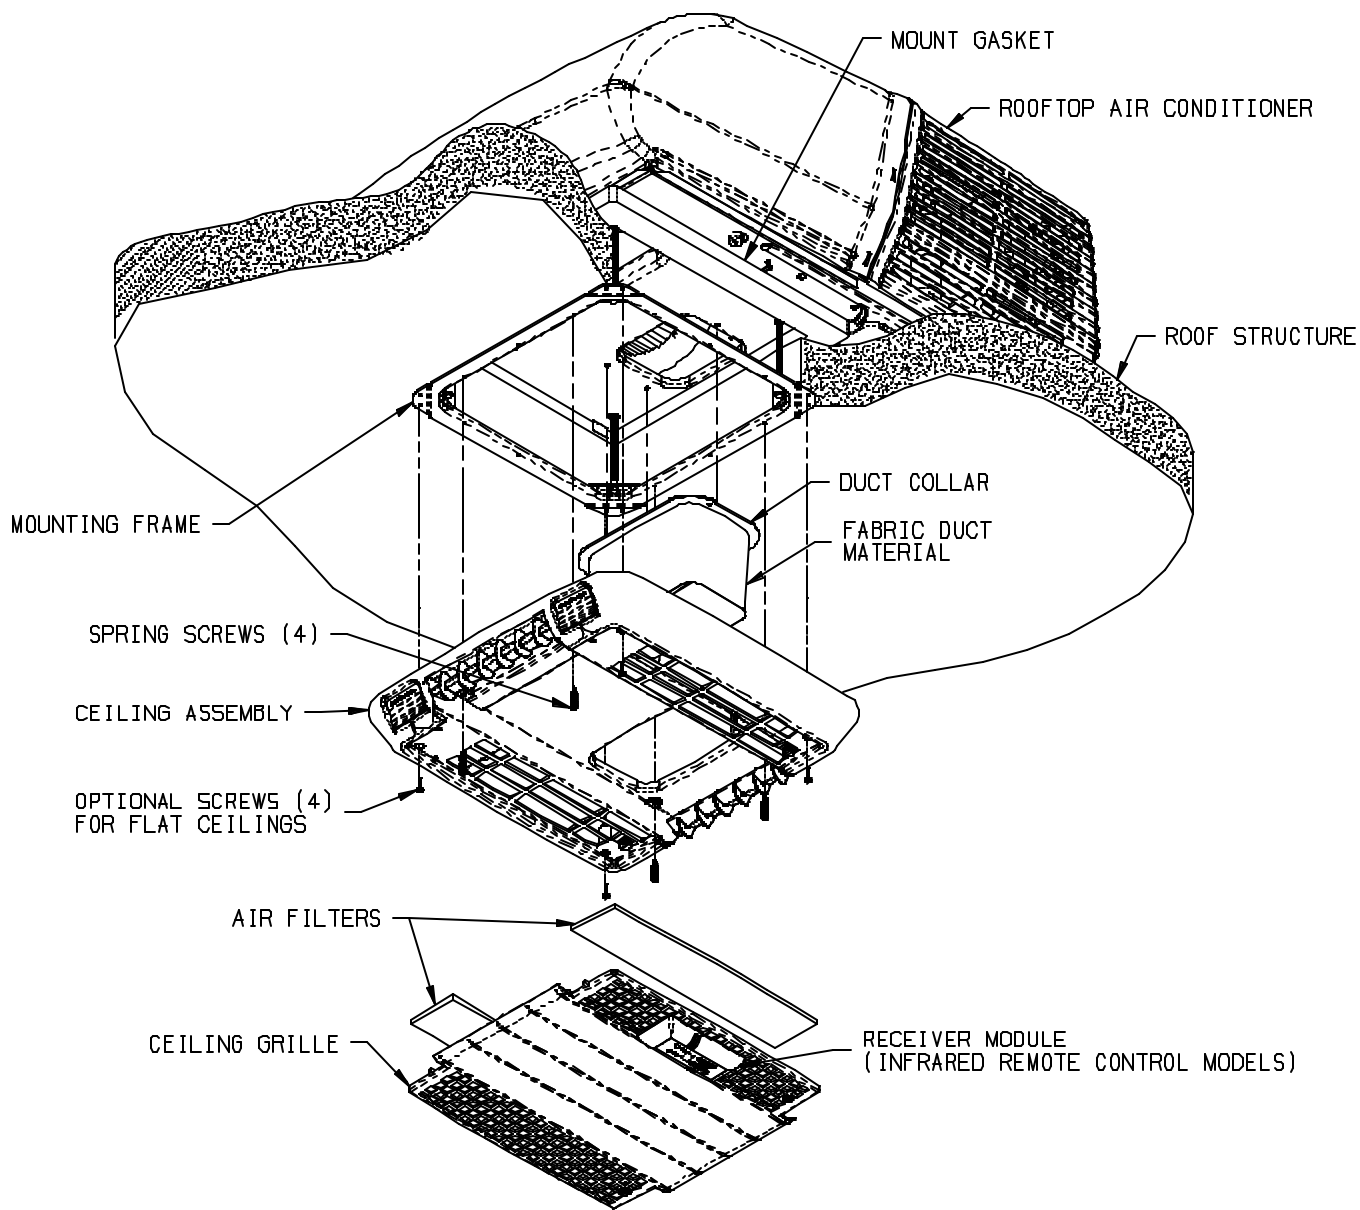

FIGURE 9
- A. Fasten the duct collar to the basepan of the air conditioner with three (3) screws (See Figure 9).
- B. Raise the ceiling assembly and secure to the mounting frame with four (4) provided shoulder screw/spring assemblies (See Figure 9).
- C. The ceiling assembly shroud is curved to contour to a crowned ceiling. If installation is to a flat ceiling and gaps are present on the sides of the shroud, insert the four optional 3/4 inch screws (provided) through the mounting posts and secure them to the mounting frame above. See Figure 9 for screw locations.